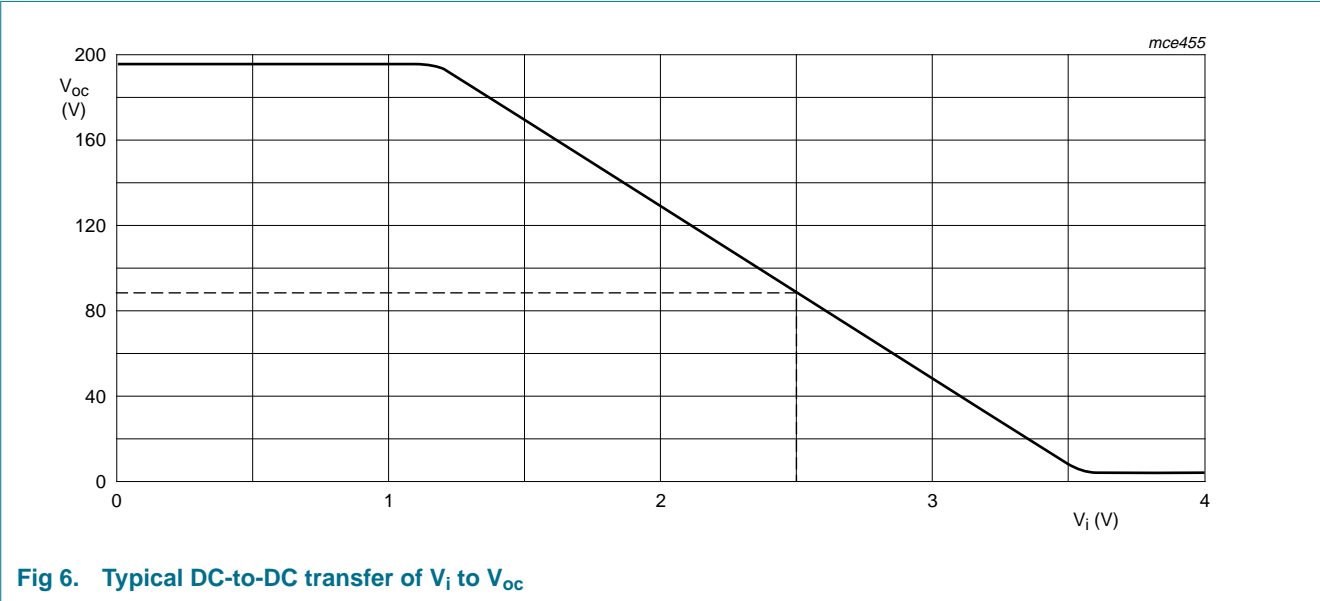

Fig 6. Typical DC-to-DC transfer of V_i to V_{oc}
- [2] See Figure 6 for the typical DC-to-DC transfer of V_i to V_{oc} .